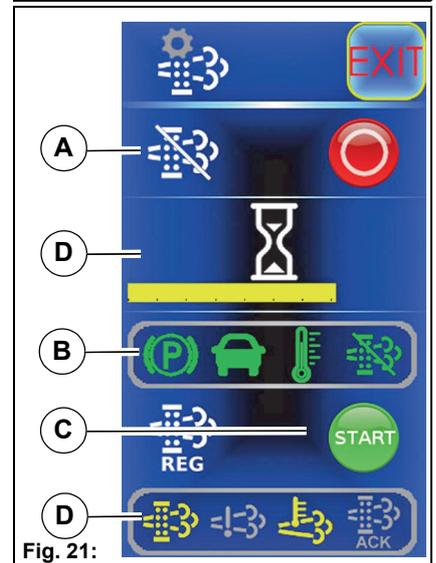

Fig. 21:
**Diesel particulate filter menu Fig. 21****A** Diesel particulate filter regeneration lock